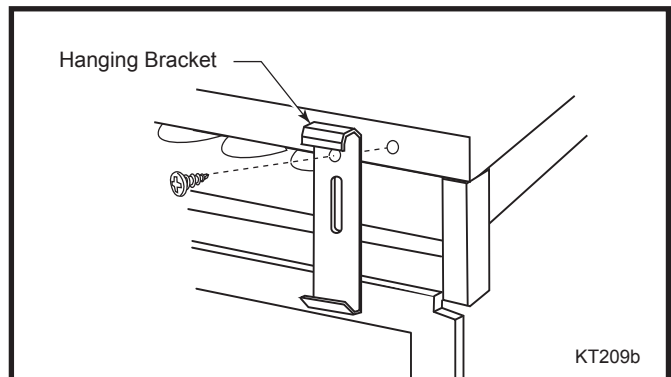

Fig. 32 Hanging bracket alignment.
2. Install the hanging brackets. (Fig. 32)